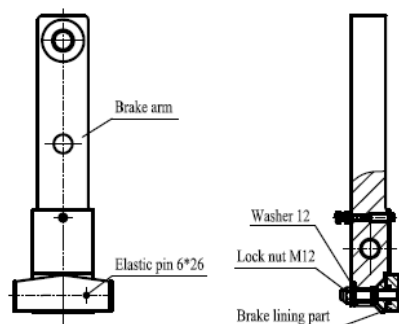

Figure 35 Emergency Brake Arm
- Remove the Locked nut M12 from the Brake arm. See Figure 35.